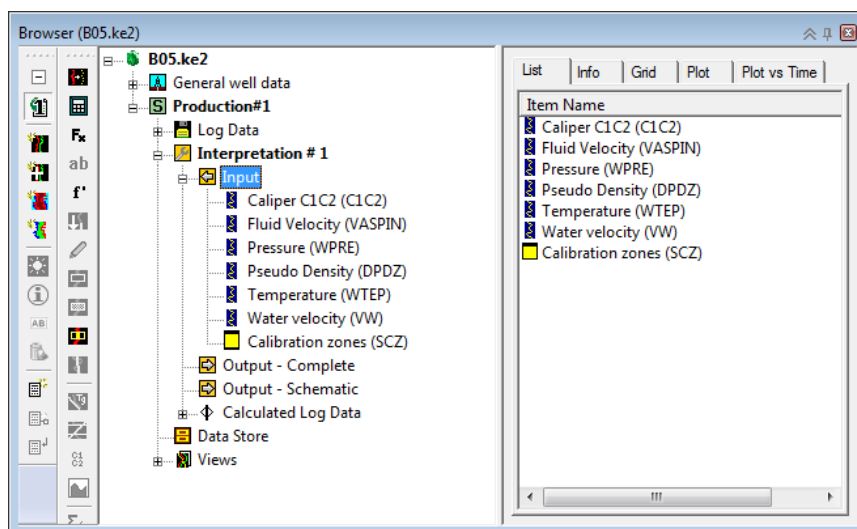

Fig. B05.28 • Data browser
- You can then drag the C1C2 channel and drop it on the right, Fig. B05.28. *Using the 'List' tab you do not need to keep the Interpretation node visible on the left.*